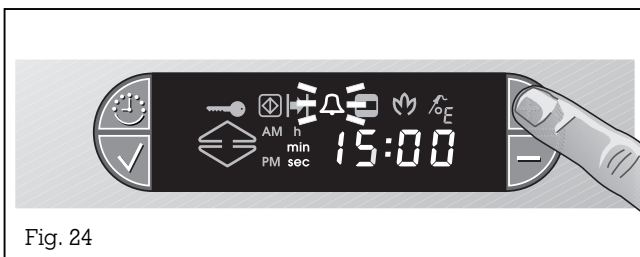

Fig. 24
- Press the + key. The short time symbol Δ flashes (Fig. 24).